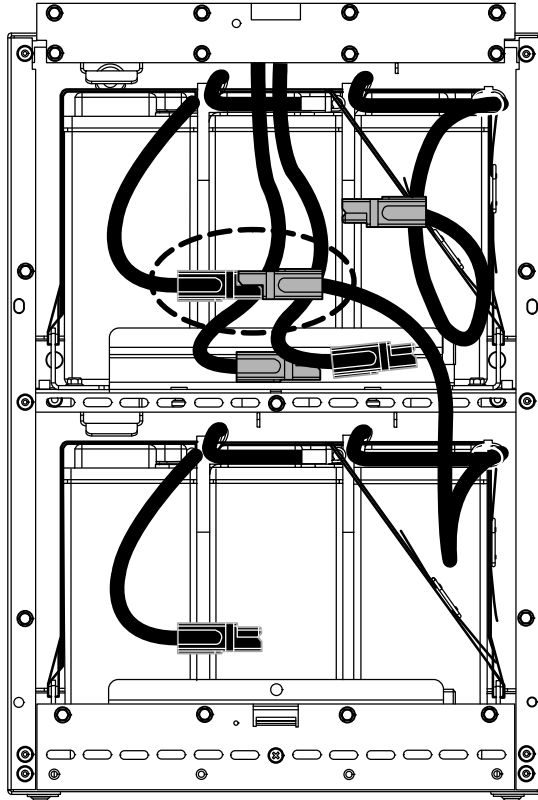

Figure 21. Connecting the Battery Trays
15. Connect the two battery trays together by connecting the black connector from the top tray to the red connector from the bottom tray. See Figure 21.